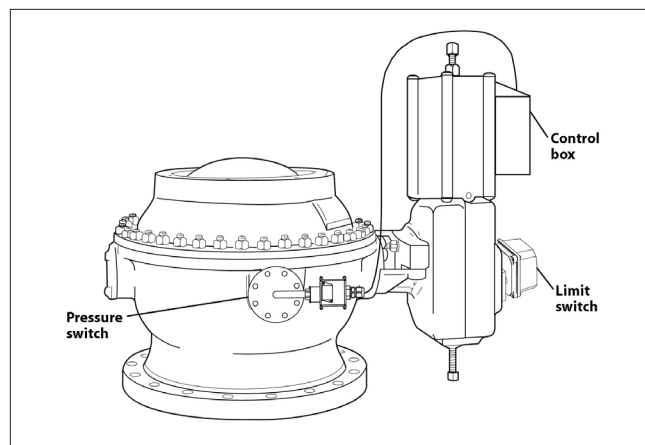

Fig. 2. Electrical interlocking system
- Electrical interlocking system (Fig. 2) consist of two separate pressure switches, limit switches and a control box (including solenoid valves and relay).